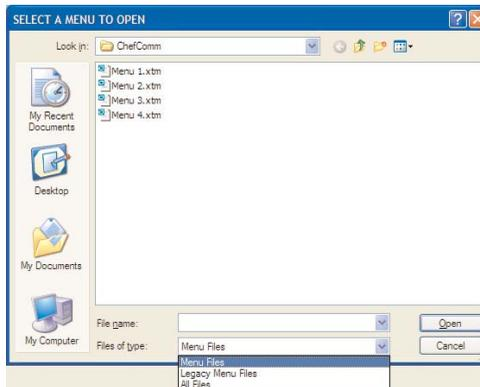

Figure 14: Open an Existing Menu
2. In the “files of type” field, select “Menu Files” (Figure 14). All ChefComm menu files (XTM files) within the folder will be displayed.